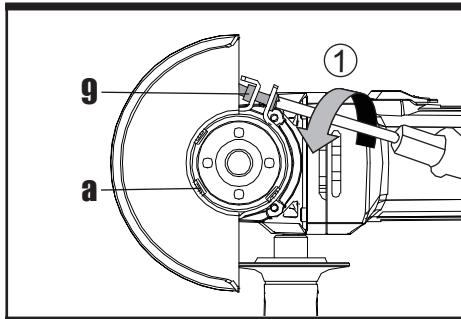

Fig.B1
9. Wheel guard clamping screw (See Fig. B1)